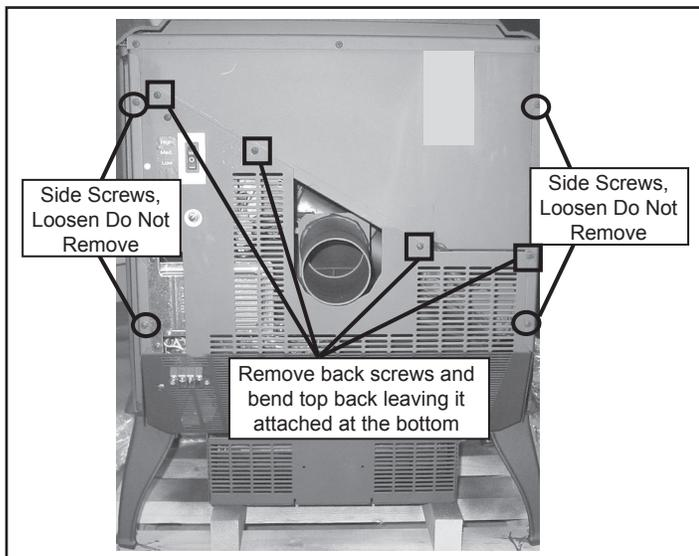

Figure 21.1
- c. Remove 4 screws from the back screen and pivot the top of the screen toward you leaving the bottom attached to appliance. **Figure 21.1.**